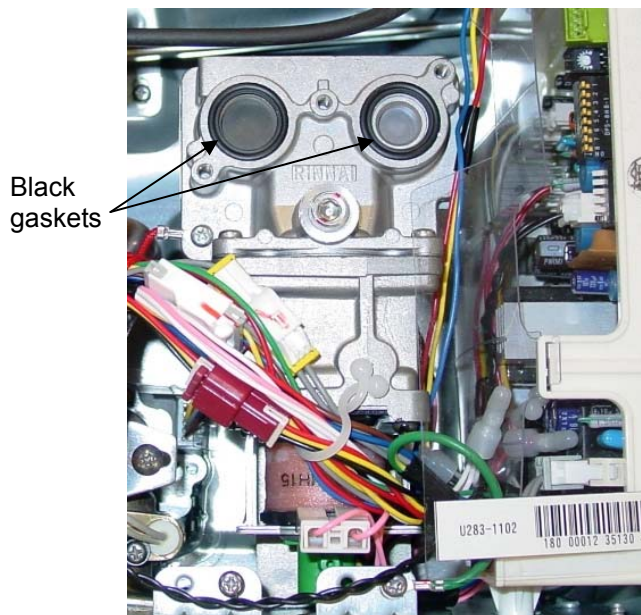

Figure 6
27. Make sure that the black gaskets (Figure 6) are intact on the gas control assembly. Make sure that the ribbed side faces toward the manifold and that the flat side faces toward the gas valve.